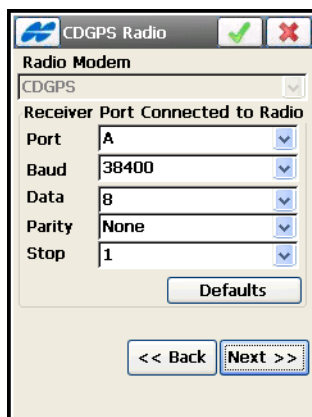

Figure 4-59. CDGPS Radio
- For CDGPS (Canadian nation-wide DGPS service), set the parameters for the receiver port connected to the CDGPS radio (Figure 4-59).